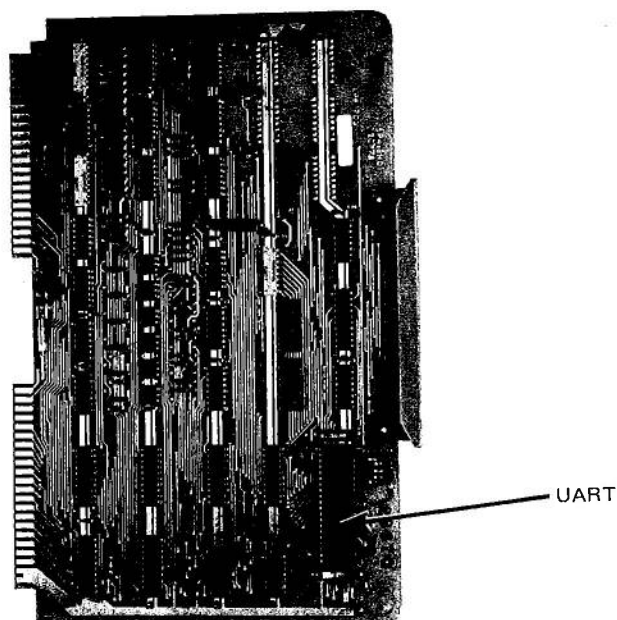

Figure 9-18. PC-700 I/O Interface Module UART Location
8. **PC-700 only** — Check to see that the UART IC is securely seated and positioned properly into its socket on the I/O interface module. See Figure 9-18.